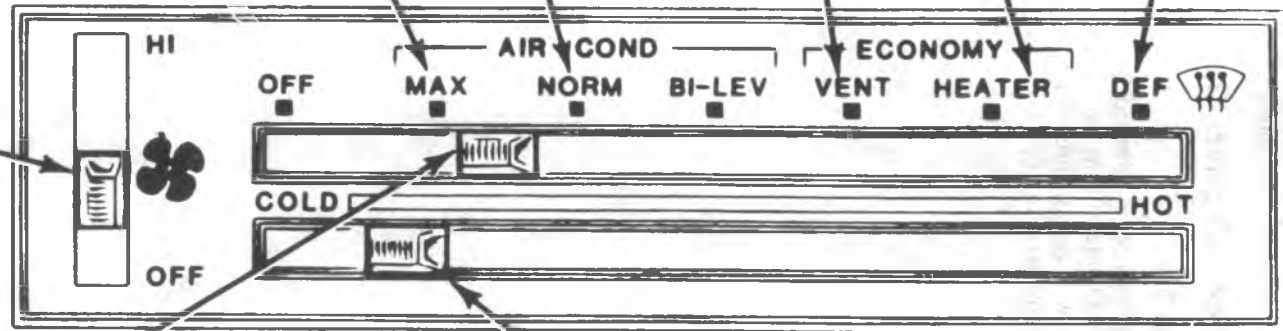

Fig. 1B-5-C60 System Controls (C-K & G Series)
**C60 SYSTEM (C-K & G SERIES) - FIG. 1B-5**
System operation is shown in Fig. 1B-6.